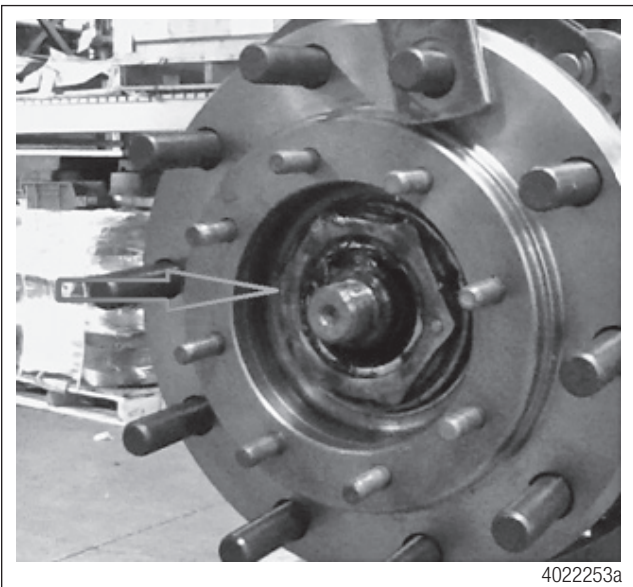

Figure 26
4. Install the bearing adjusting nut (with the dowel facing outward). Figure 26.